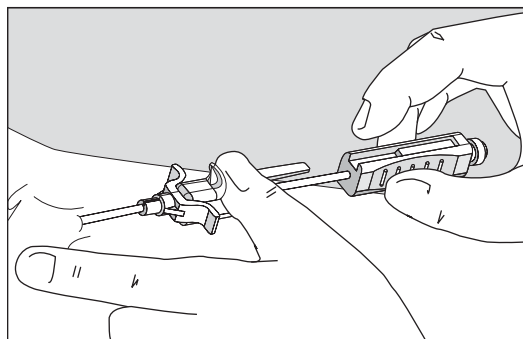

Figure 21
- Firmly hold needle hub with one hand while using other hand on push-off tab to advance introducer sheath to a desired length. Use index finger or thumb on push-off tab to stabilize needle protector. Then pull back needle hub until needle protector activates over needle bevel (refer to Figure 21).